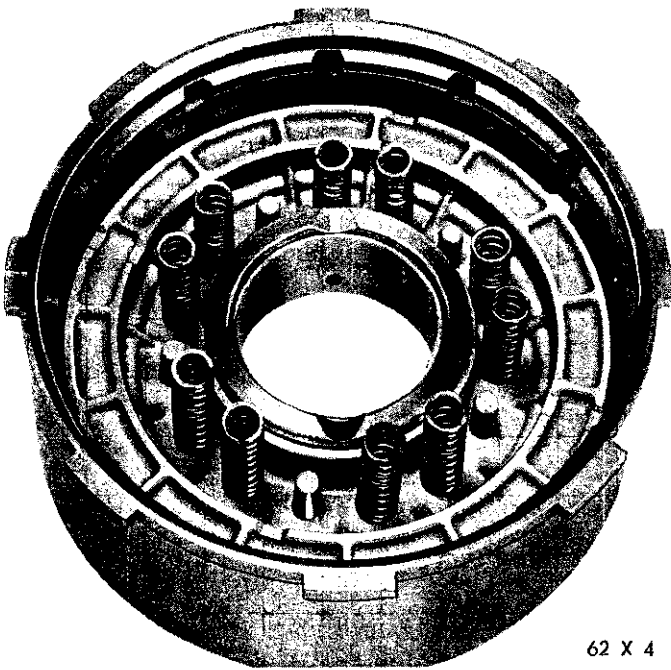

Fig. 71—Front Clutch Piston Return Spring—Location
(1) Lubricate and install the inner seal on hub of the clutch retainer. Make sure lip of the seal faces down and is properly seated in the groove.
(2) Install the outer seal on the clutch piston, with lip of seal toward bottom of the clutch retainer. Apply a coating of "Door Ease" to the outer edge of the seal for easier installation of the piston assembly. Place the piston assembly in retainer and carefully seat the piston in the bottom of the retainer.
(3) Place the 10 springs on the piston hub exactly as shown in Figure 71. Position the spring retainer